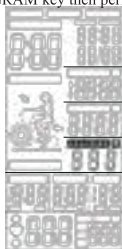

Figure 43
- ② CALORIES value is flashing, press UP and DOWN to adjust (Figure 43). Press ENTER to confirm meanwhile buzzer beeps 1s and CALORIES lasting lighting up